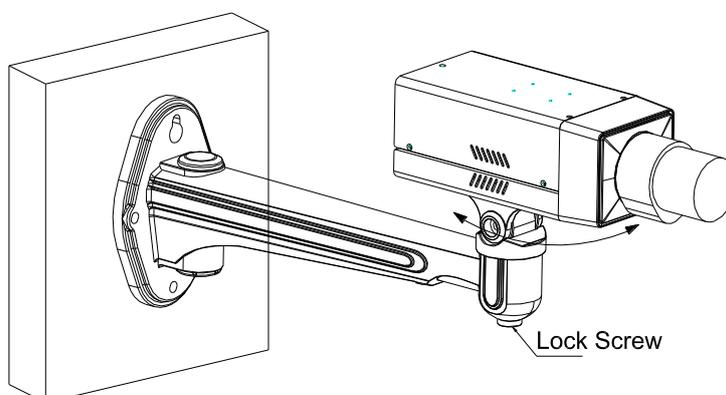
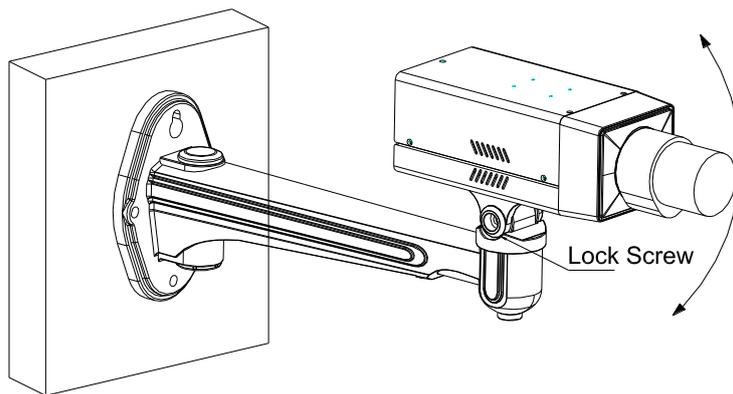

Figure 2-17 Panning
Figure 2-18 Tilting
4. Loosen the panning lock screw, you can adjust the panning angle of the camera up to 360° (Figure 2-17); Loosen the tilting lock screw, you can adjust the tilting angle of the camera up to 90° (Figure 2-18).